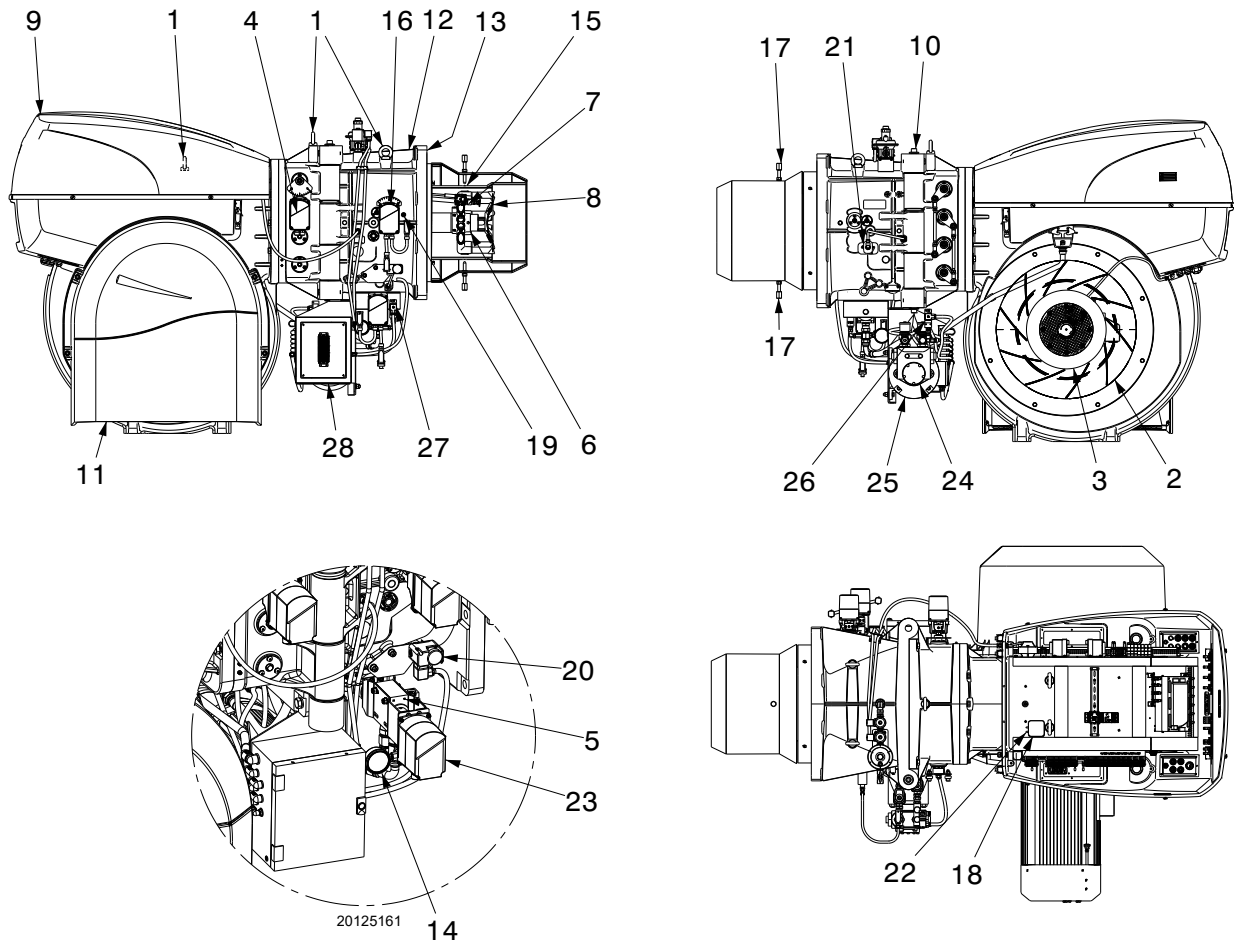

Fig. 4
- (1) Reference conditions: Ambient temperature 20 °C - Gas temperature 15 °C - Barometric pressure 1,013 mbar - Altitude 0 m a.s.l.
(2) Pressure at test point 19)(Fig. 4) with zero pressure in combustion chamber and at maximum burner output.
(3) Sound pressure measured in manufacturer's combustion laboratory, with burner operating on test boiler and at maximum rated output. The sound power is measured with the "Free Field" method, as per EN 15036, and according to an accurate "Accuracy: Category 3" measurement, as described in EN ISO 3746.
(4) The burners are factory set for FS1 operation (1 stop every 24 hours), but can be switched to the FS2 operation (continuous - 1 stop every 72 hours) by changing the parameters of the AZL display.